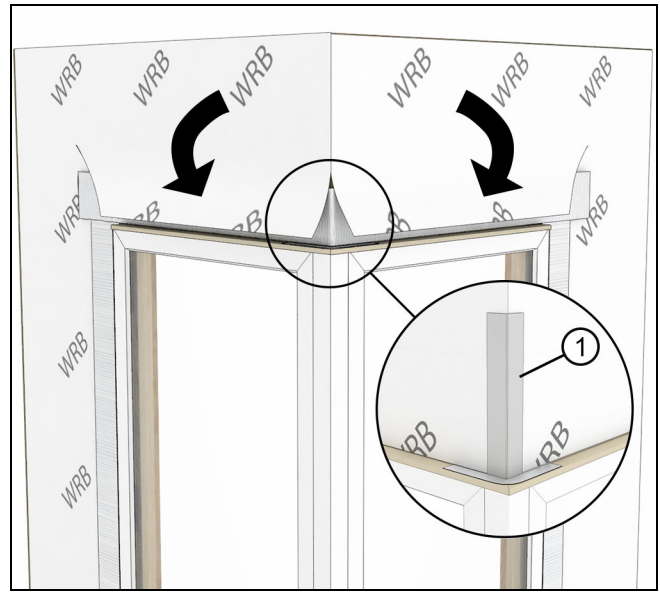

Figure 65
8. Fold the head jamb air barrier down over the flashing. Tape and seal the top corner. See Figure 65